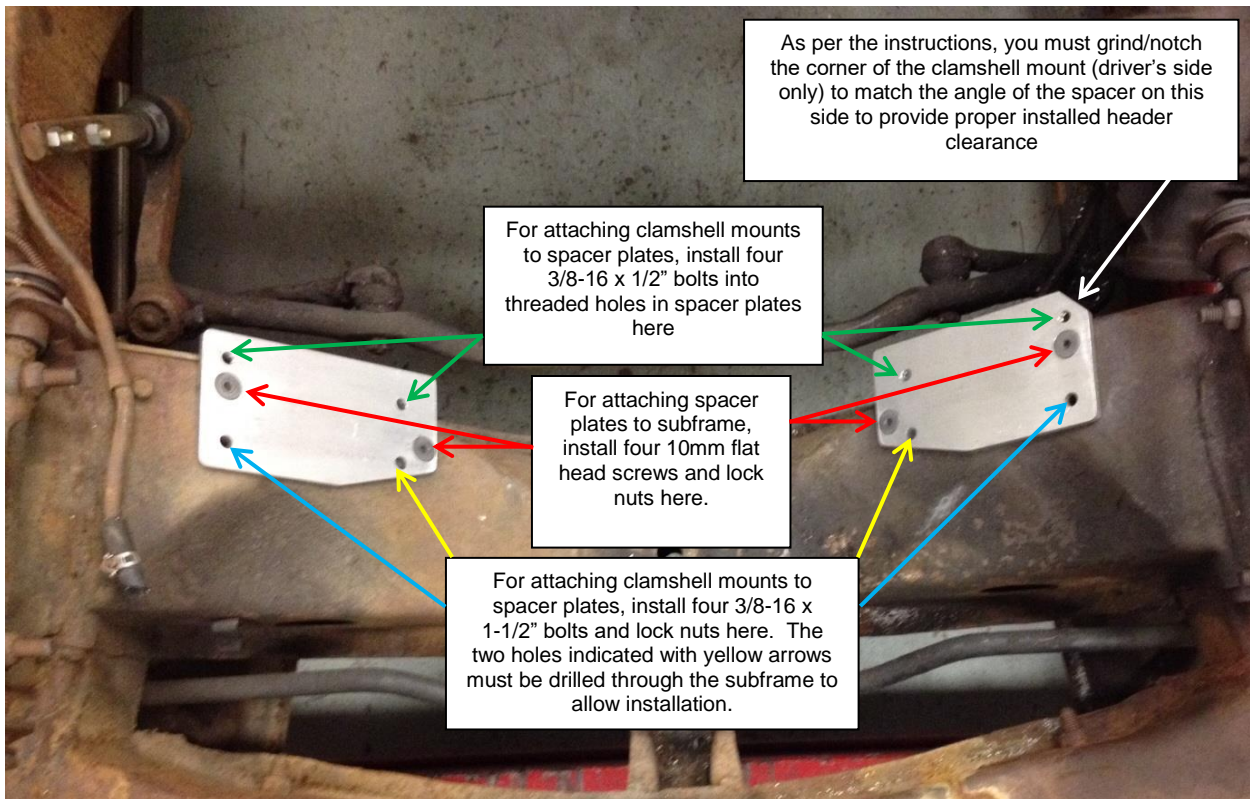

Figure 2 Adapter Plate/Clamshell Fastener Schedule
1. Attach the included adapter plates to each side of the subframe. Drill two 3/8" holes through the subframe and prep the upper rear corner of the driver's side clamshell mount as indicated in **Figure 2** on the next page. Install nuts on all four countersunk bolts and tighten through the access openings you used to remove the stock frame stands; a 6" socket extension works well for this purpose.